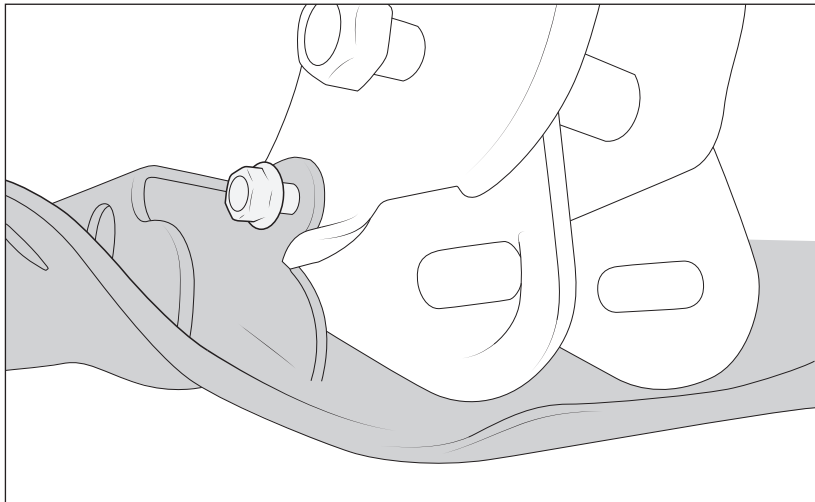

Figure 21
- F. Install M12x35mm bolts and washers to rear inboard skid plate mounts, pointing toward rear of vehicle (fig. 21). Install M12 flange nuts to all four rear mounting bolts.